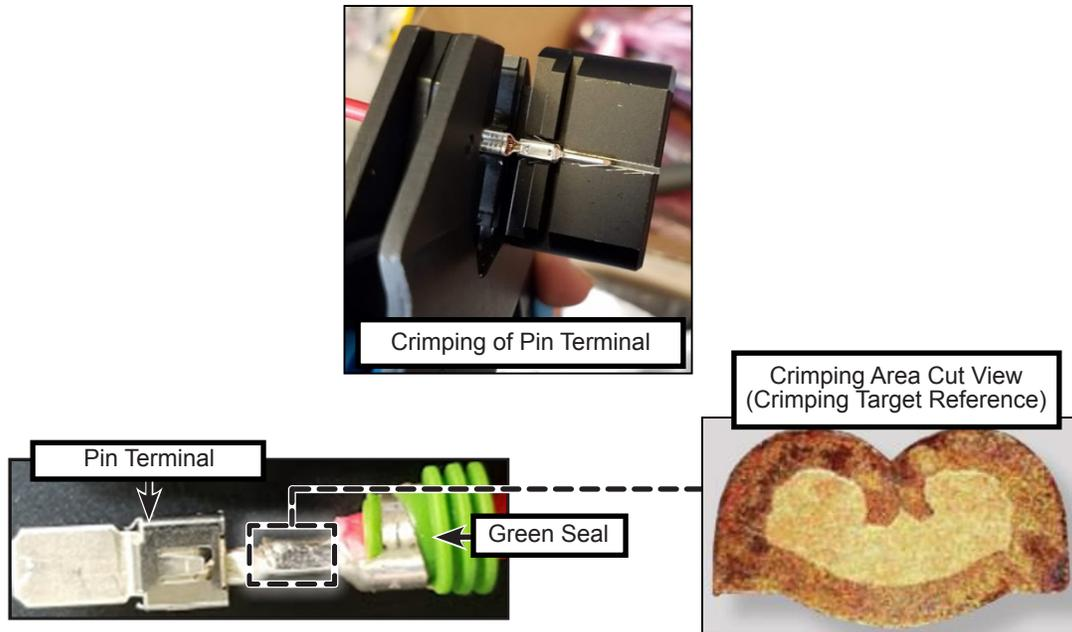

Figure 8 - TE Connectivity HDSCS Pin Terminal and Green Seal
- 1.17. Using the HDSCS crimping tool (see figure 5), crimp the pin terminal PN N97874-02 with the green seal PN N77238 on both RED and BLACK power wires (see figure 8). Refer to the figure below showing a typical HDSCS terminal crimp example and to Annex 1 for more information about the HDSCS connectors terminal crimping quality guidelines